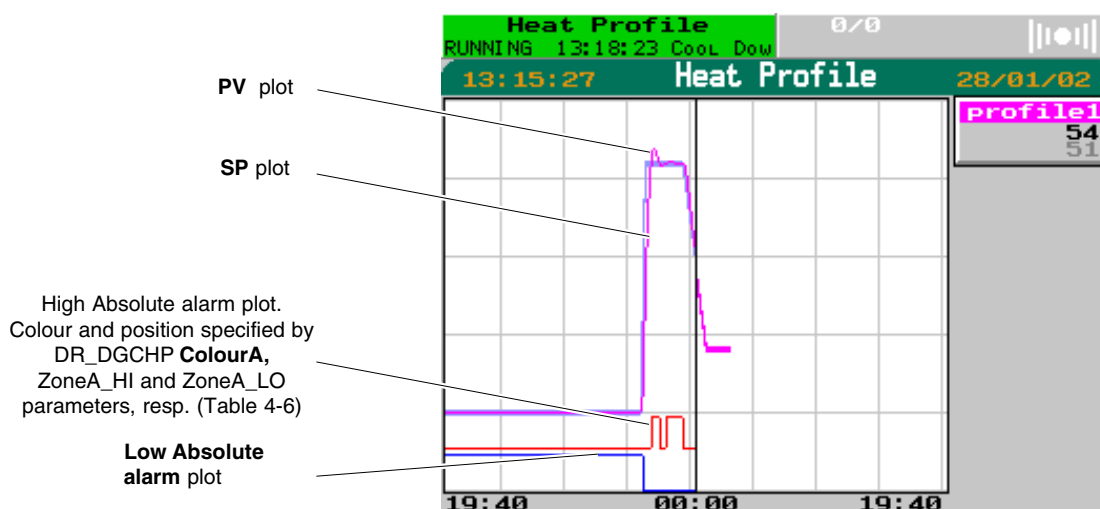

Figure 4-6 Pre-plot view of the two-group application
- 8 Back in the **Programmer** window press **RUN**, then **PRE-PLOT** to watch the program's progress. Figure 4-6 shows the pre-plot window as it might appear towards the end of the program. The high absolute alarms when PV overshoots the setpoint are clearly visible in the preplot (red trace).